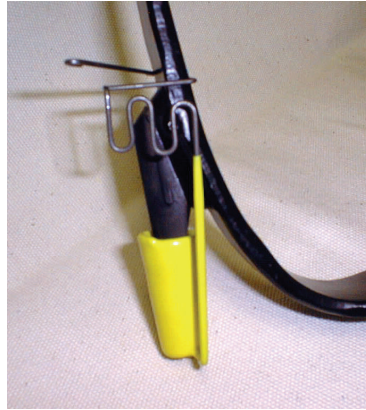

Fig. 2.
2. Slide the Universal Gaff Guard down the climber shank, place the gaff inside the spring portion of the gaff guard and then slide the gaff up the leg iron shank to ensure full insertion of the gaff into the guard as shown in Fig. 2.